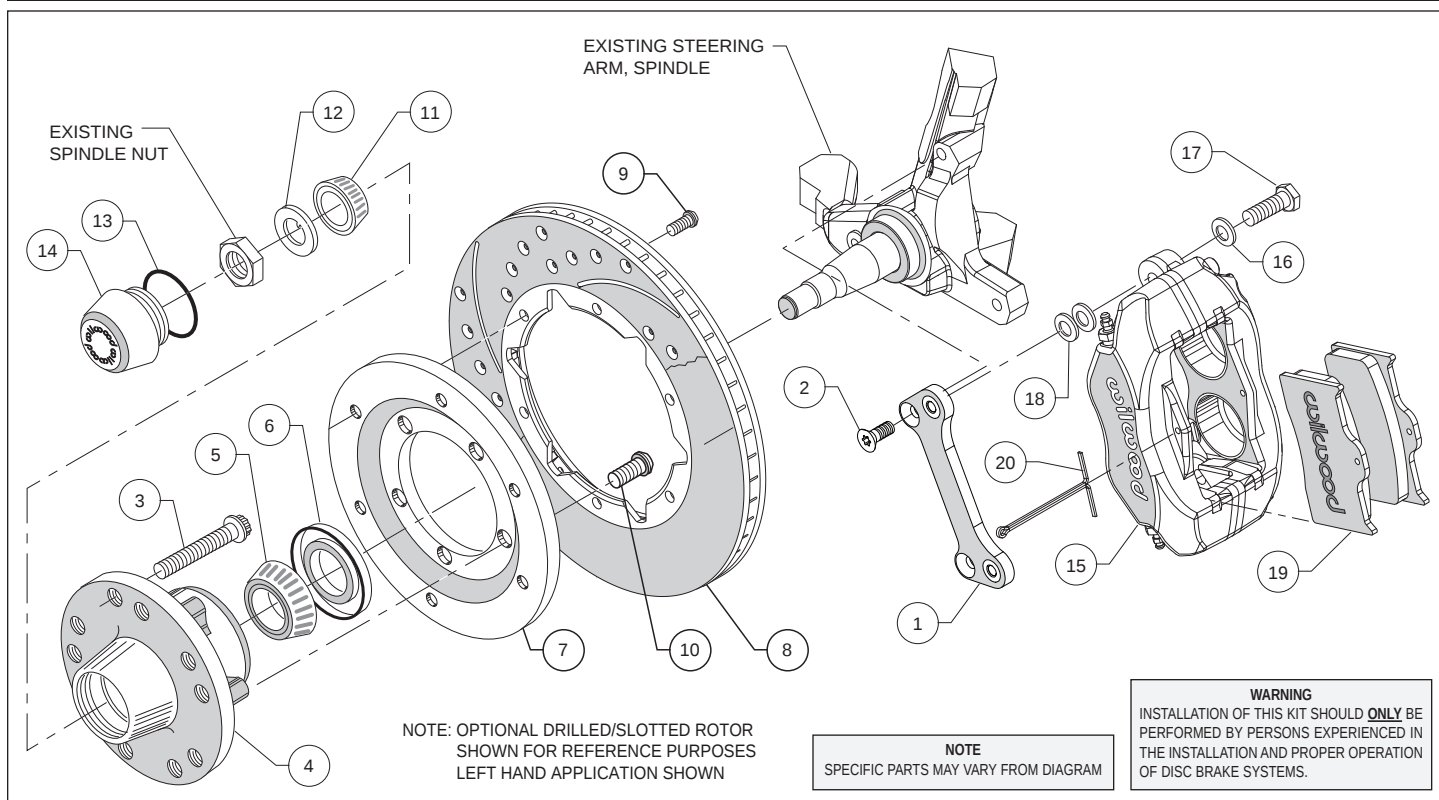
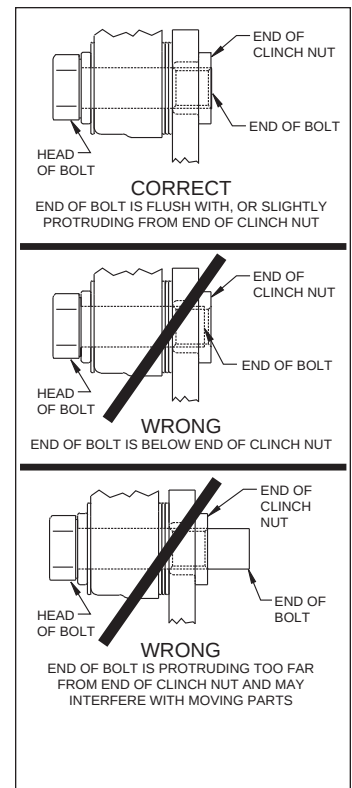

Figure 2. Typical Installation Configuration
Figure 4. Clinch Nut Engagement Diagram
Assembly Instructions (numbers in parenthesis refer to the parts list on the preceding page, and Figure 2 above): **CAUTION:** All mounting bolts must fully engage insert nuts. Be sure to check that all bolts are either flush or protruding through flanged side of clinch nut after shimming, Figure 4.
- Align caliper mounting bracket (1) with the corresponding holes, to the face of the spindle and attach using bolts (2), as shown in Figure 2 and Photo 1. Temporarily tighten the mounting bolts. Ensure that the flanged heads of the clinch nuts in the bracket are facing outboard, Photo 1. **NOTE:** The bracket must fit squarely against the mounting points on the spindle. Inspect for interference from casting irregularities, machining ridges, burrs, etc. Remove bolts one at a time, apply red *Loctite*® 271 to threads, and torque to 40 ft-lb.
- Orient the rotor (8) and the rotor adapter (7) as shown in Figure 2 and Photo 4. Attach the rotor to the adapter using bolts (9). Using an alternating sequence, apply red *Loctite*® 271 to the threads, and torque to 25 ft-lb.
- Mount the adapter/rotor assembly (7/8) to the hub (4) using bolts (10), as shown in Figure 2 and Photo 5. Using an alternating sequence, apply red *Loctite*® 271 to the threads, and torque to 55 ft-lb.
•**NOTE:** Please reference the caution statement at the beginning of the assembly instructions. Mount the caliper (15) onto the caliper mounting bracket (1) using bolts (17) and washers (16), as shown in Figure 2. Initially place two .035" thick shims (18) on each bolt between the caliper and the bracket, Photo 8. Temporarily tighten the mounting bolts and view the rotor (8) through the top opening of the caliper. The rotor should be centered in the caliper, Photo 9. If not, adjust by adding or subtracting shims between the bracket and the caliper. Always use the same amount of shims on each of the two mounting bolts. **NOTE:** The end of each bolt must be flush with or slightly protruding from the head of the clinch nut, as shown in Figure 4. If necessary place spare shims between washer (16) and caliper mounting ear to achieve the proper clinch nut engagement. Once the caliper alignment and clinch nut engagement are correct, remove the bolts one at a time, apply red *Loctite*® 271 to bolt threads, and torque to 40 ft-lb.